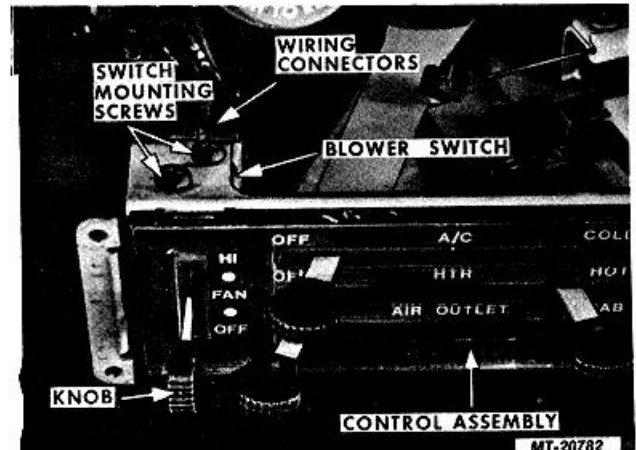

Fig. 40 Blower Switch
2. Pull knob from blower switch lever (Fig. 40).